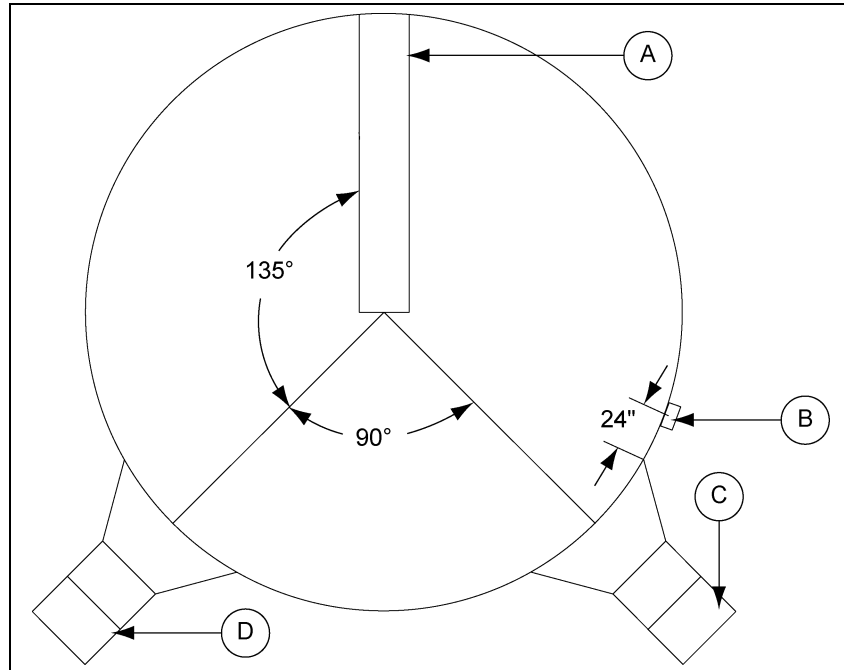

Figure 3C
**IMPORTANT:** When mounting two (2) heaters on a bin it is imperative that they be situated as shown in Figure 3C. Plenum thermostat (B) must be to the right of master heater (C) and master heater must be to the right of slave heater (D).